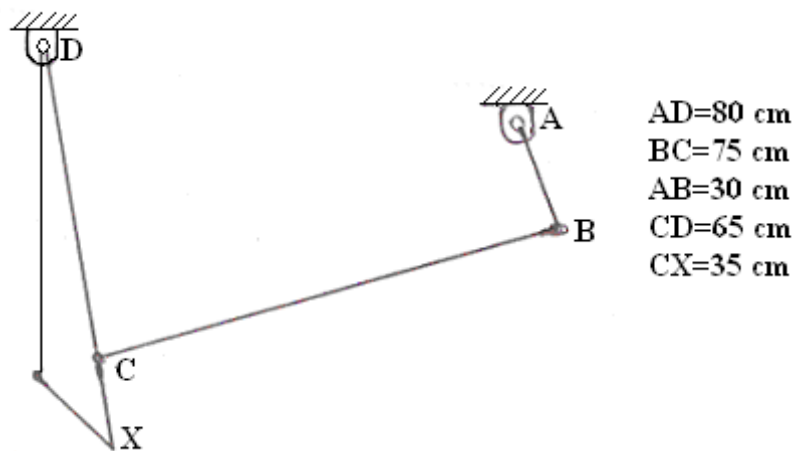

Figure 1
1. A nose wheel-assembly for a small aircraft is shown in figure 1. Classify the motion of this four-bar mechanism based on the configuration of the links.